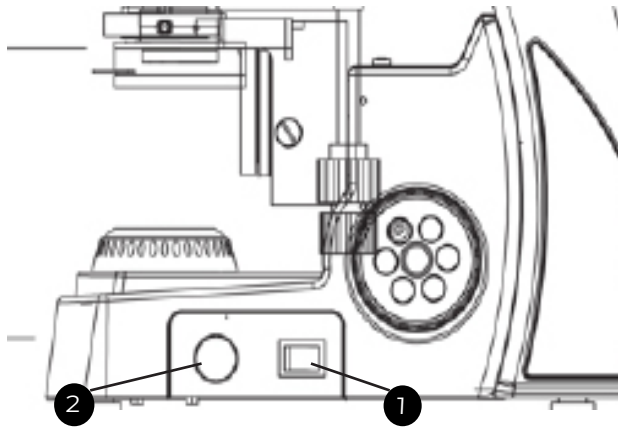

Fig. 6
1. Turn on the power to the microscope by moving the main power switch **1** to the on position (“—”) (See Fig. 6).
2. Adjust the light intensity by rotating the adjustment knob **2** to a comfortable level (See Fig. 6).
NOTE: Rotating the light intensity adjustment knob in clockwise direction will increase brightness and rotating it in a counterclockwise direction will lower brightness (See Fig. 6).